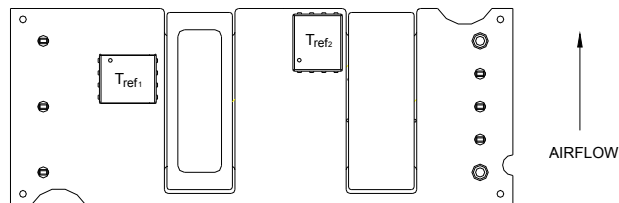
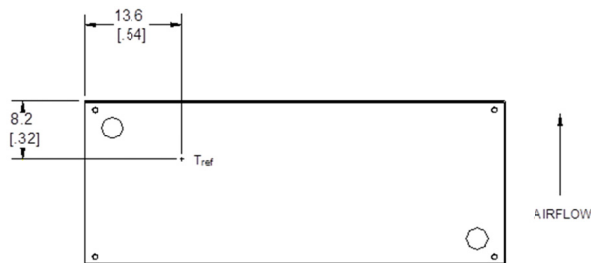

Figure 13. T_{ref} Temperature Measurement Locations for Open Frame Module.
Figure 14. T_{ref} Temperature Measurement Location for Module with Heatplate.
To provide protection under certain fault conditions, the unit is equipped with a thermal shutdown circuit. The unit will shutdown if the thermal reference points, T_{ref} , exceed 135 $^{\circ}$ C (Figure 13, typical) or 120 $^{\circ}$ C (Figure 14, typical) respectively, but the thermal shutdown is not intended as a guarantee that the unit will survive temperatures beyond its rating. The module will automatically restart upon cool-down to a safe temperature.
The thermal reference points, T_{ref1} , and T_{ref2} used in the specifications for open frame modules are shown in Figure 13. For reliable operation these temperatures should not exceed 124 °C & 121 °C respectively
The thermal reference point, T_{ref} , used in the specifications for modules with heatplate is shown in Figure 14. For reliable operation this temperature should not exceed 98 °C.